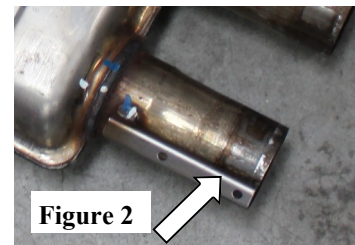

Figure 2
2. Beginning with the left-side, use a flat blade screwdriver and twist to release the pin and slide the left-side band-clamp away from the muffler. (See Fig. 2)